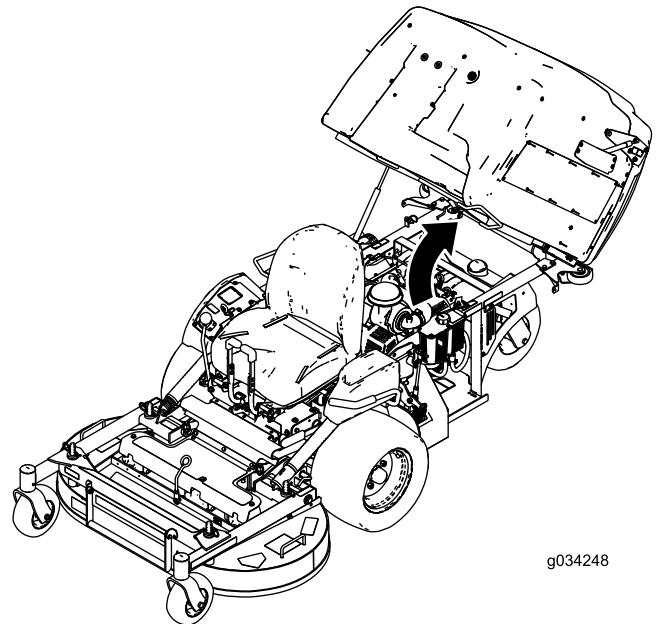

**Figure 27**
- Lubricate the pump-belt idler arm (Figure 27).